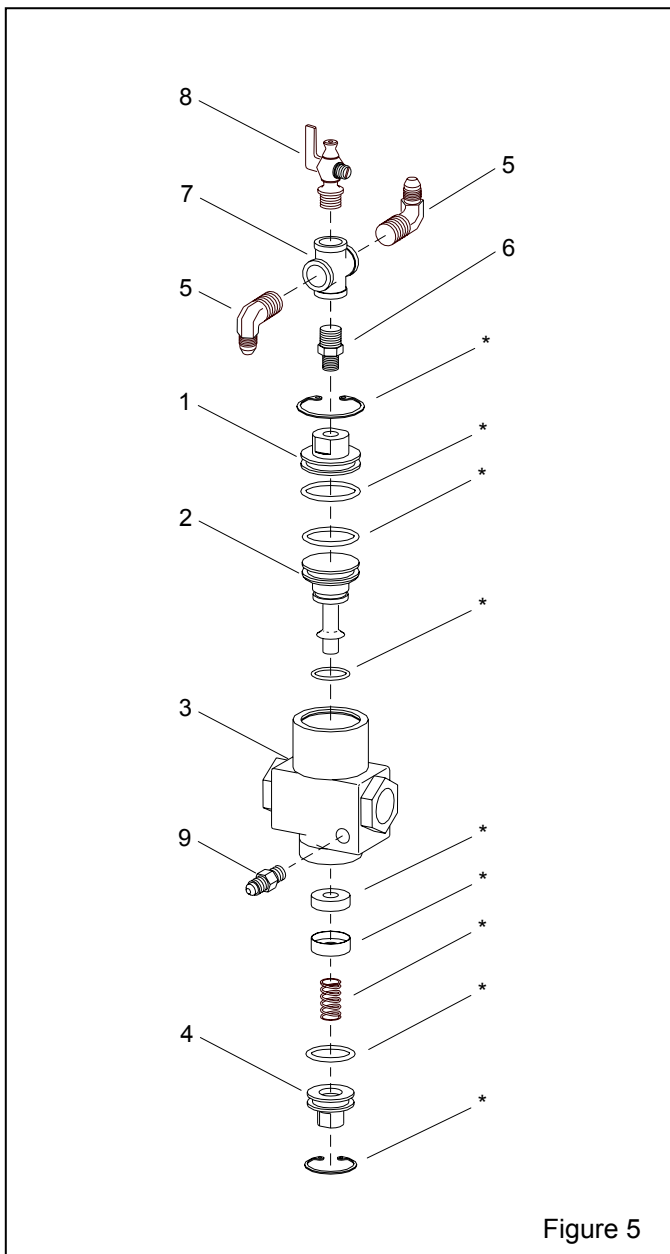

Figure 5
#### 5.1 Inlet Valve, Ref. Figure 5
5.1.8 Lubricate all O-rings, and use the illustration in Figure 5, to reassemble the valve in reverse order, assembling the top end first.
**6.1.4** Check for air escaping from the opening under the control handle. If no air is escaping, the orifice on the inlet valve (Figure 5, item 9) or the line from the orifice to the control handle is blocked and must be cleared.
**6.2.1** Make sure that the lower fitting on inlet valve (Figure 5, item 9) has not been replaced with a fitting with a full flow orifice. The orifice on the 1/8" NPT end of the fitting must be 1/16" diameter.
7.5 Inlet Valve, Figure 5